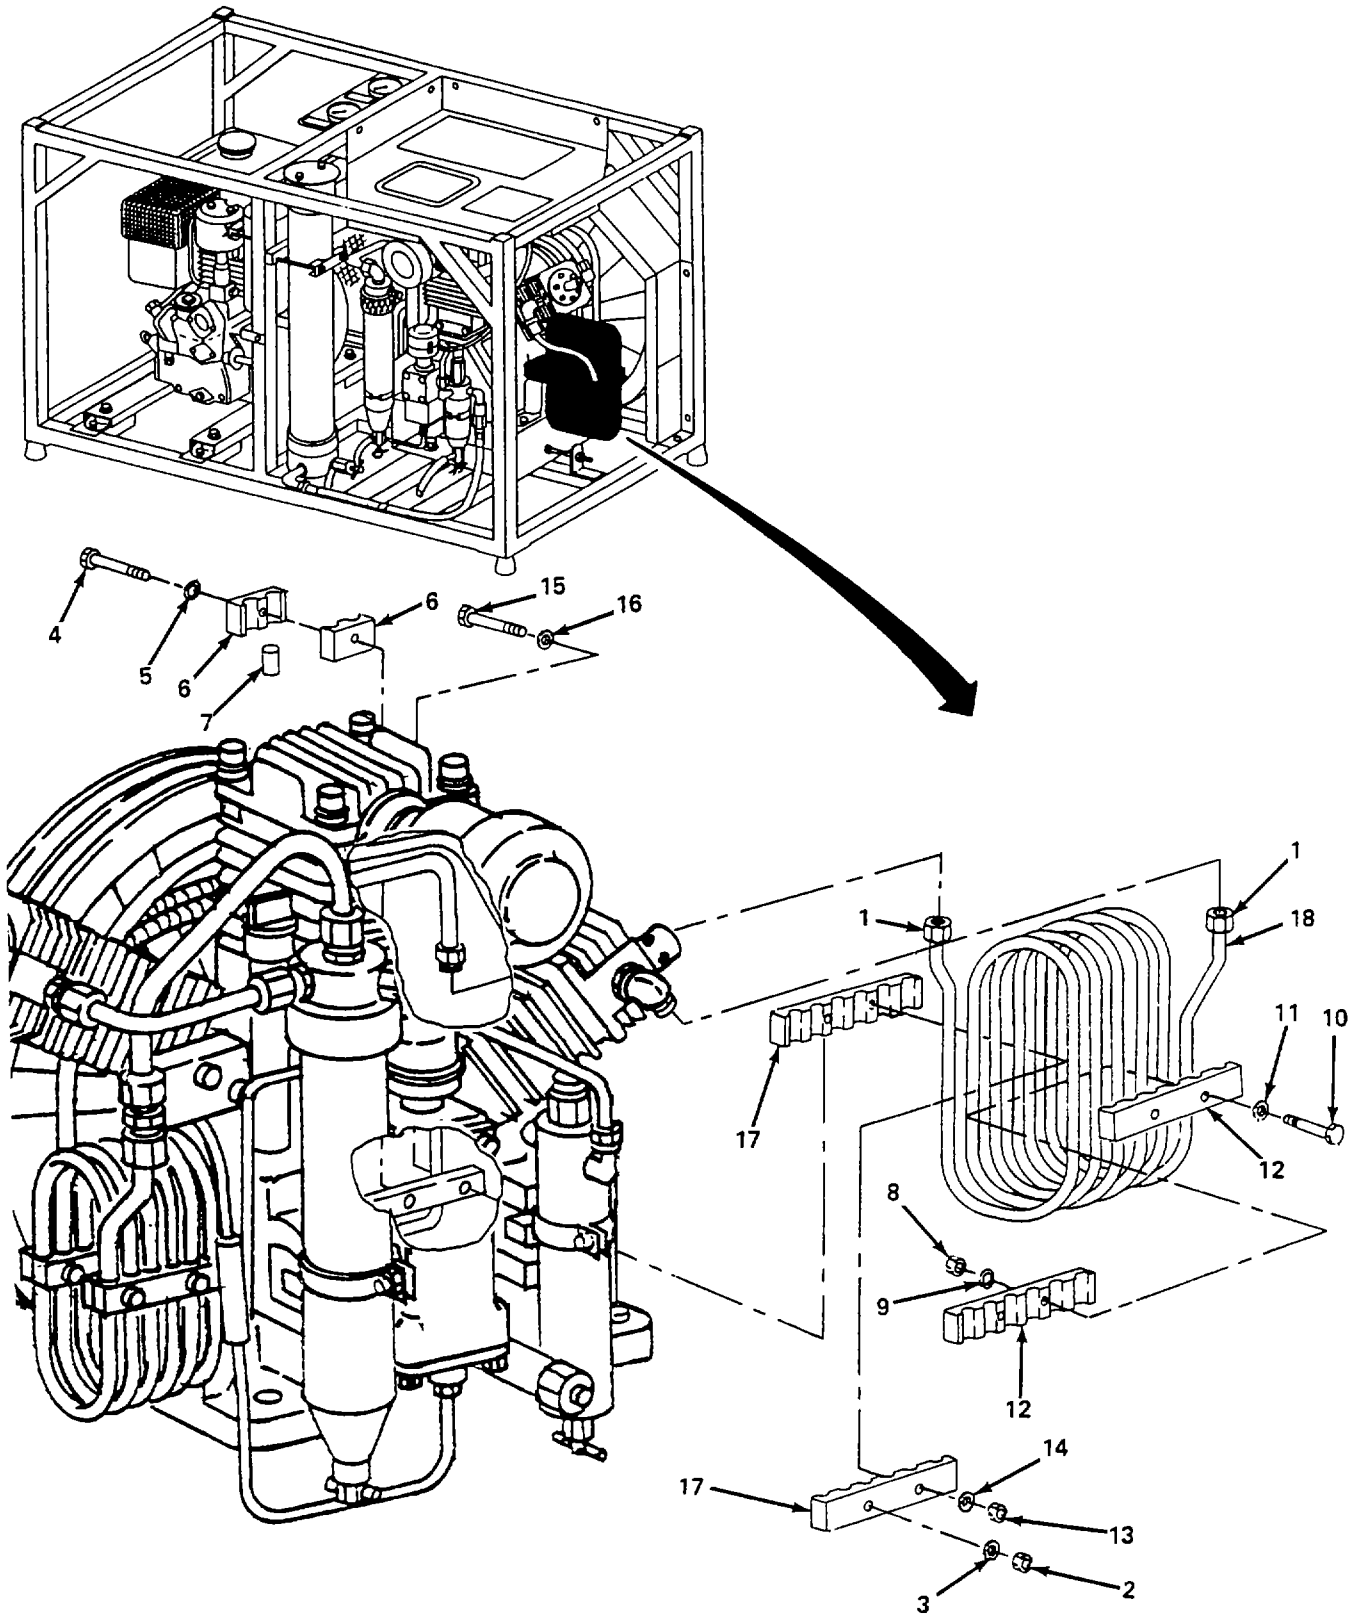

Figure 5-14. First Stage Intercooler Coil, Replace.
**Replace.** (figure 5-14)**WARNING**
- (1) Loosen two connector nuts (1).
- (2) Remove nut (2), washer (3), bolt (4), washer (5), two blocks (6), and spacer (7).
- (3) Remove two nuts (8), washers (9), bolts (10), washers (11), and brackets (12).
- (4) Remove nut (13), washer (14), bolt (15), washer (16), two brackets (17), and intercooler coil (18).
- (5) Position intercooler coil (18) and tighten two connector nuts (1).
- (6) Install two brackets (17) and secure with washer (16), bolt (15), washer (14), and nut (13).
- (7) Install two brackets (12) and secure with two washers (11), bolts (10), washers (9), and nuts (8).
- (8) Install spacer (7) and two blocks (6), and secure with washer (5), bolt (4), washer (3), and nut (2).